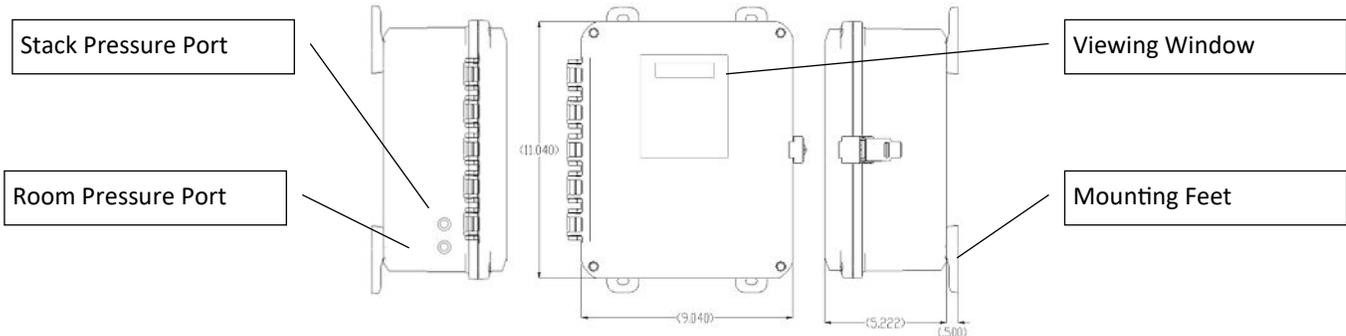

FIGURE 24
- When possible, a single “accessible” location is preferred for access to the Meridian control panel as well as the gas valve control box (XLVK (N/P) for the Isoflames XL Burner. With mounting feet installed the Meridian Control Panel measures approximately 9-1/2” (W) x 12” (T) as shown in **(Figure 24)**. The gas valve control valve box measures approximately 12” (W) x 12” (T) x 4” (D). The gas valve control box installation will be covered in section “Gas Line & Valve Box Installation”.